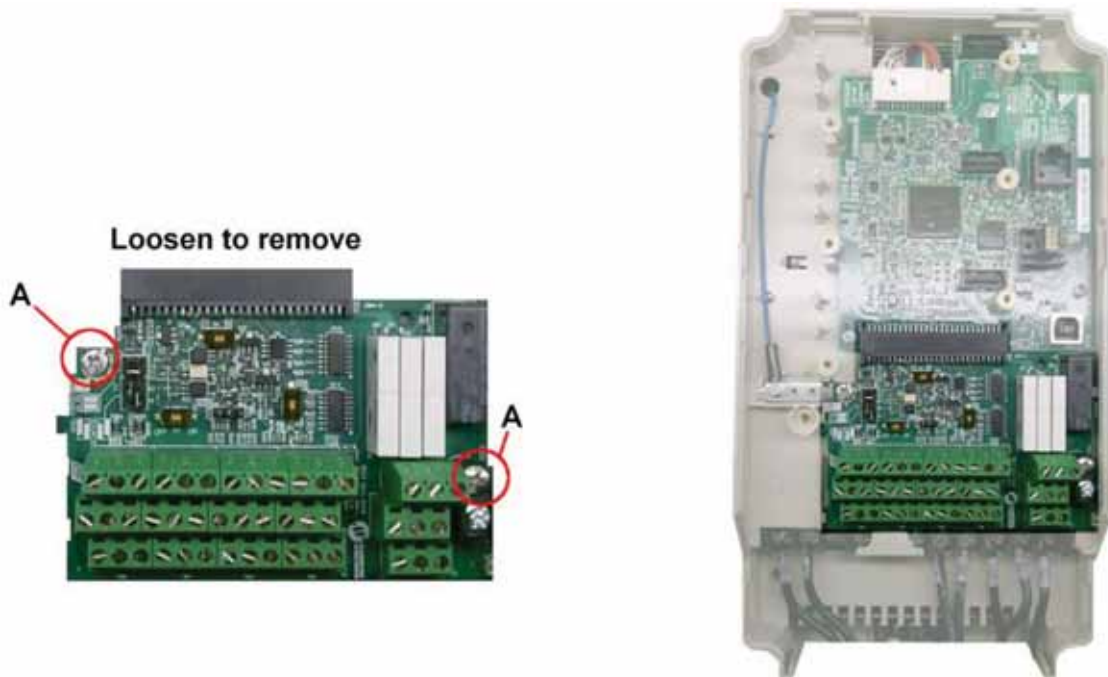

Figure 6-2: Location of Retaining Screws
7. Loosen the two retaining screws (A) pictured in **Figure 6-2**.
11. Tighten the screws (A) pictured in **Figure 6-2**.